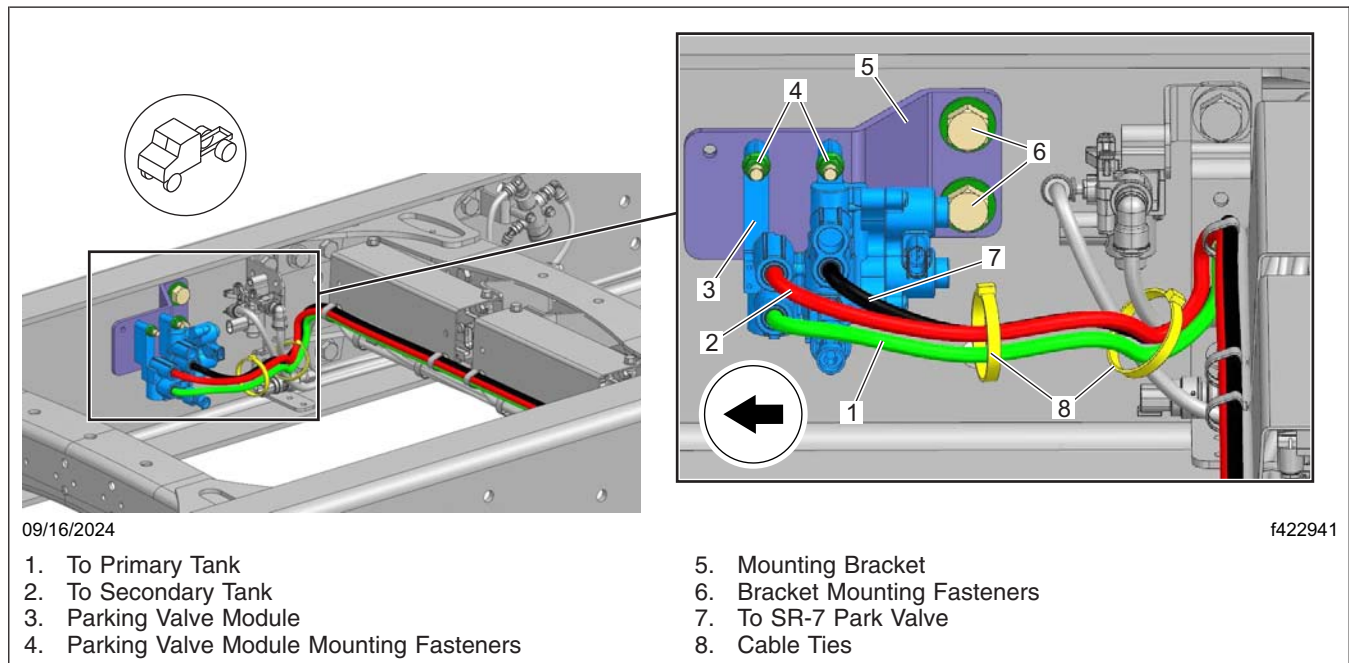
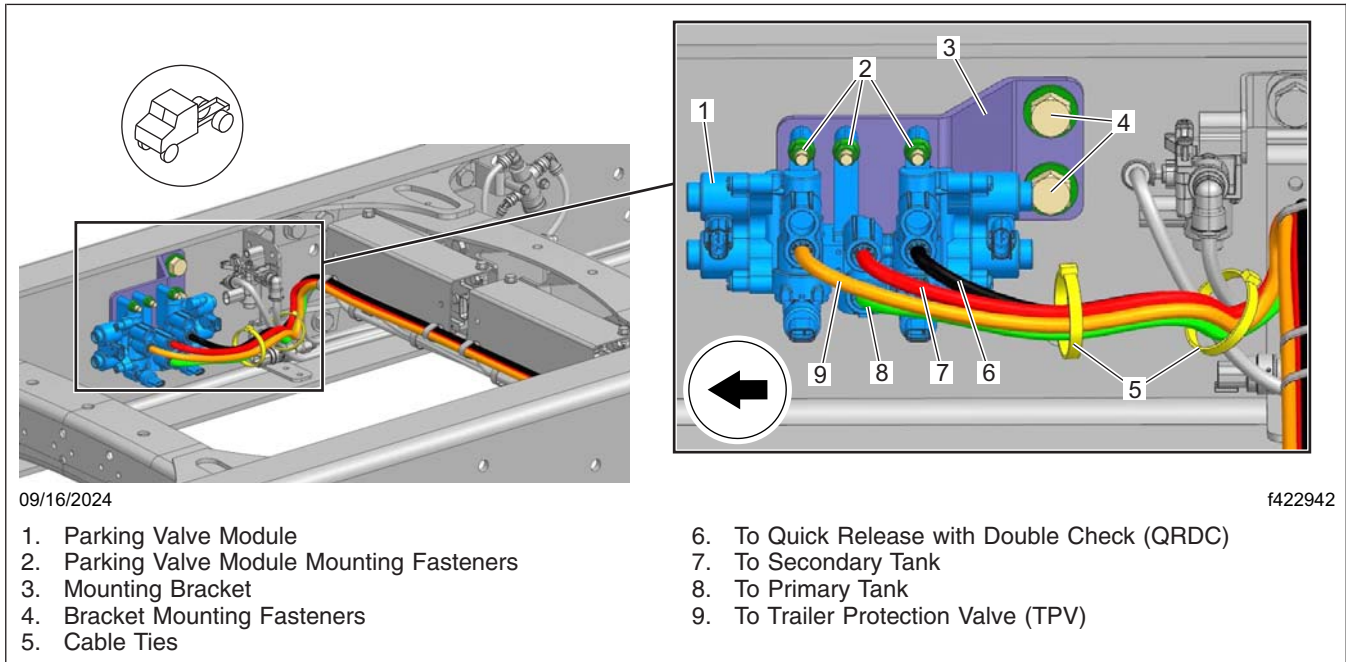

Fig. 2, Parking Valve Module, without Towing
Fig. 3, Parking Valve Module, with Towing
5. Locate the park brake control valve mounted above the rear axle of the vehicle. See Fig. 2 and Fig. 3.
7. Disconnect the air lines. See Fig. 2 and Fig. 3.
8. Remove the fasteners that attach the parking valve module to the mounting bracket. See Fig. 2 and Fig. 3.